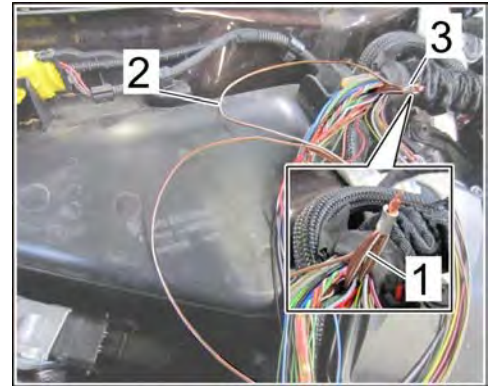

Figure 7
- Make sure that all strands are contained in the BDM clip and are sticking out by about 2 mm (⇒ *Figure 7-inset-*).